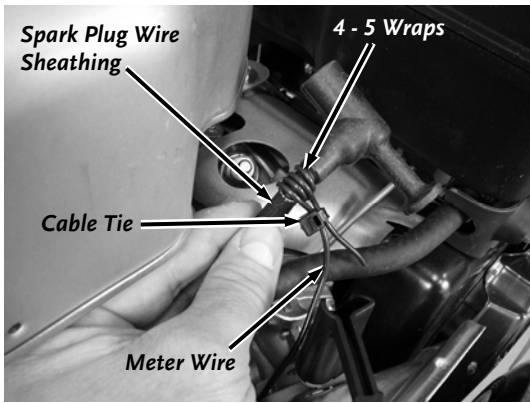

Figure 13
6. Pull the Plug Wire Boot from the Spark Plug so you can reach the Plug Wire better (**Figure 13**).